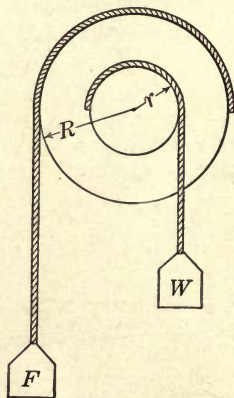

FIGURE 259.—THE WHEEL AND AXLE.
It consists of a wheel and an axle rigidly fastened together. (Figure 259.) The force (F) acts on a rope wound around the wheel, and the weight (W) is attached to the other end of the rope.